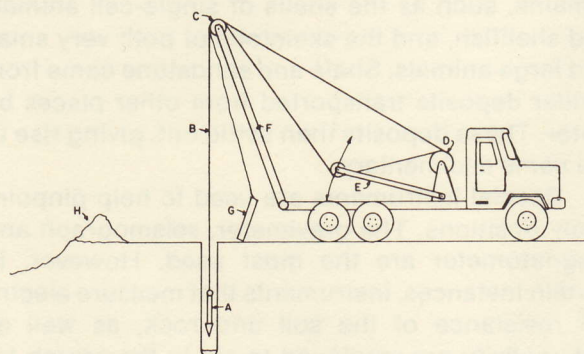

Fig. 3.—Diagram of a cable drilling rig.
A diagram of equipment used in cable drilling is shown in Figure 3. A cable drilling rig consists of a small machine with a tower or derrick (F), 10 to 30